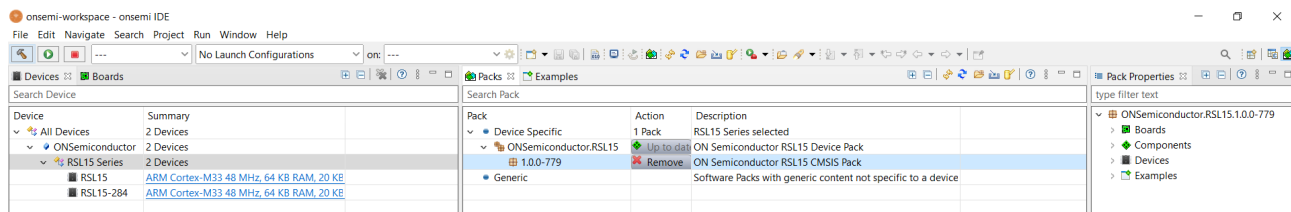

Figure 6. Pack Manager Perspective after RSL15 CMSIS-Pack is Installed
5. The RSL15 CMSIS-Pack now appears in the list of installed packs. In the **Devices** tab, if you expand **All Devices > ON Semiconductor > RSL15 Series**, you can see **RSL15** listed there. You can manage your installed packs in the **Packs** tab. Expanding **ON Semiconductor > RSL15** and selecting the device makes the **Pack Properties** tab display the details of the RSL15 CMSIS-Pack (see the "Pack Manager Perspective after RSL15 CMSIS-Pack is Installed" figure (Figure 6)). Selecting the device in the Devices tab also displays the RSL15 information in **Pack Properties**.